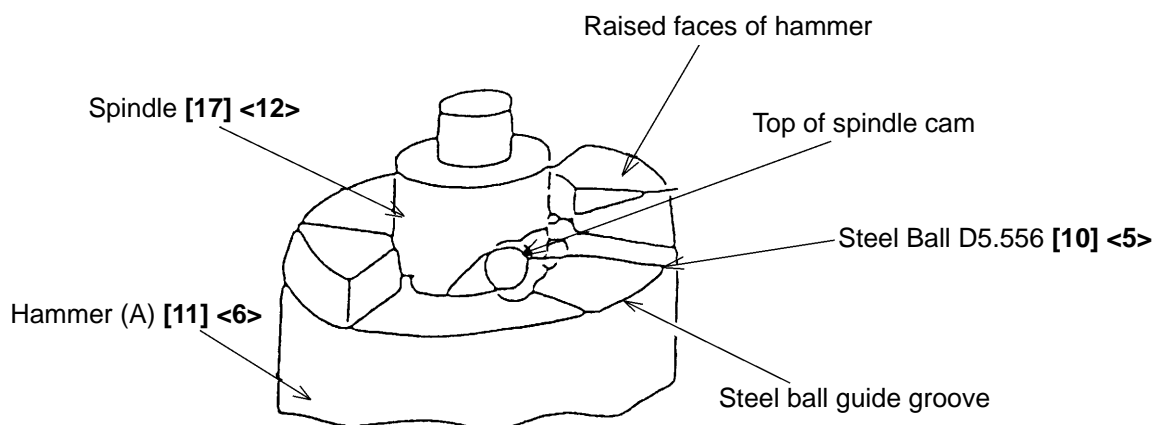

Fig. 7
(b) Align the top of the cam groove on the Spindle [17] <12> with the steel ball guide groove on Hammer (A) [11] <6> as illustrated in Fig. 7. Press down either of the raised faces of Hammer (A) [11] <6> with a hand press to compress the Hammer Spring [14] <9> until the end surface of the hammer contacts the Spindle [17] <12>.